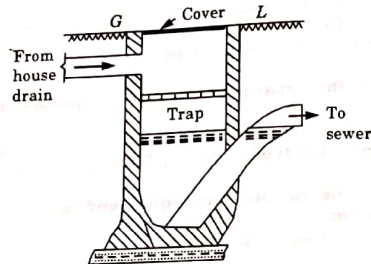

Fig. 2. Nahani trap.
- iii. A cover with grating is provided at its top so as to prevent the entry of solid matter into the underground drain. The cover can be removed for the cleaning of the trap. Fig. 2.